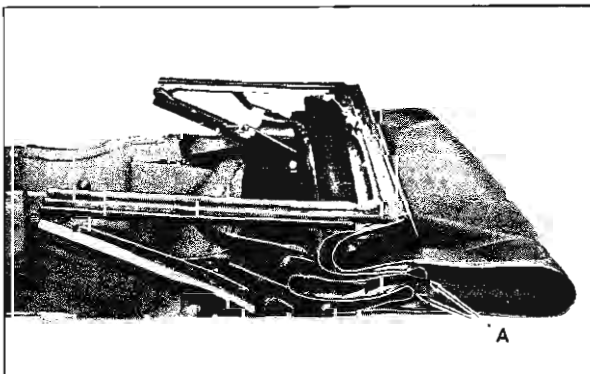

Fig. 21-6 Tuck Padding into Compartment
C. Operate top control switch until top is approximately six (6) inches from full down position. Be sure padding "A" has been pulled rearward from between operating arms of top to insure proper fit of top boot (Fig. 21-6).